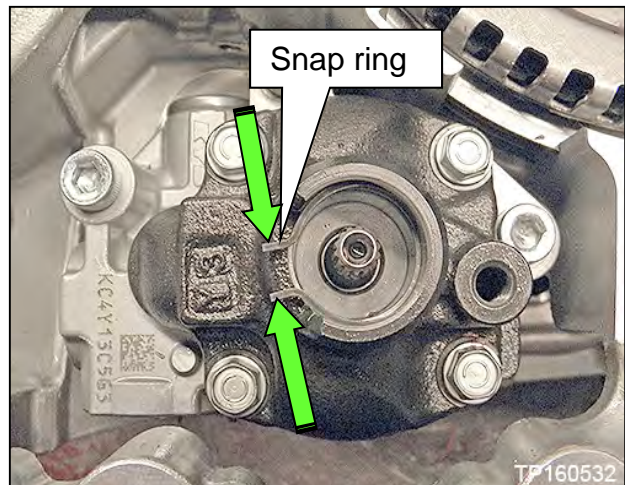

Figure 46
b. Oil pump snap ring (Figure 46).